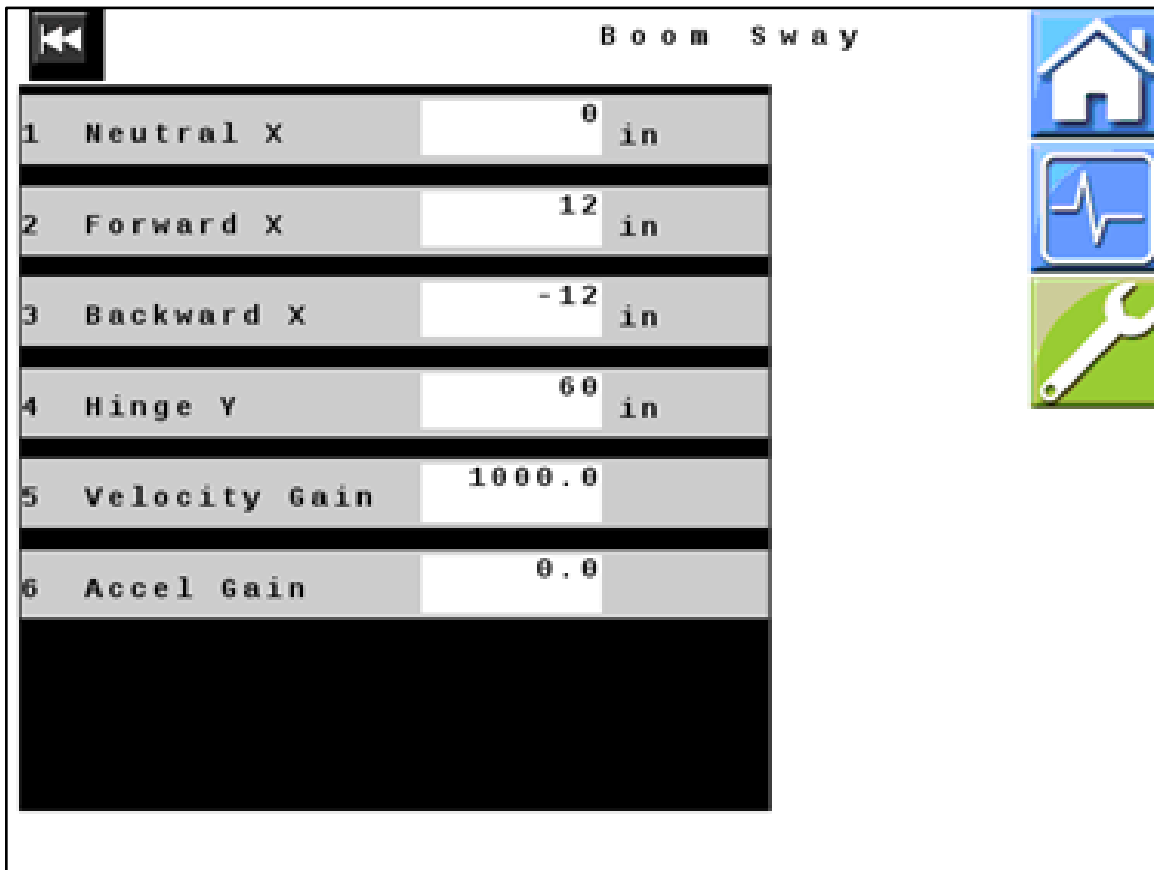

Figure 13 — Boom Sway
25. *Figure 13:* Verify that all values displayed on your unit match those shown here. Change values if necessary.